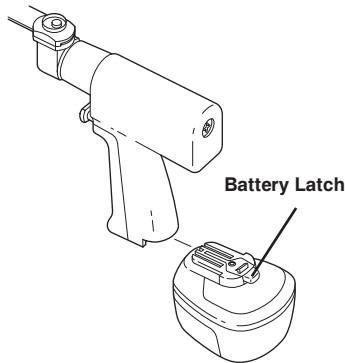

Figure 3 Battery Pack Installation
1. Slide a fully charged battery pack firmly into the handpiece until the battery latch snaps, indicating the pack is secure (see figure 3).